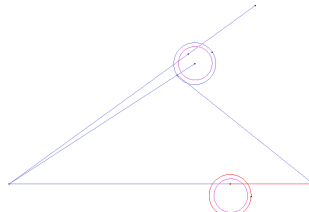

Figure 11. Intersecting lines
- 8 . Choose the option **Geometry->Edit-> Intersection->Lines** in order to make another intersection between the lower circle and the line segment between point (40, 0) and point (55, 0) (see Figure 11).